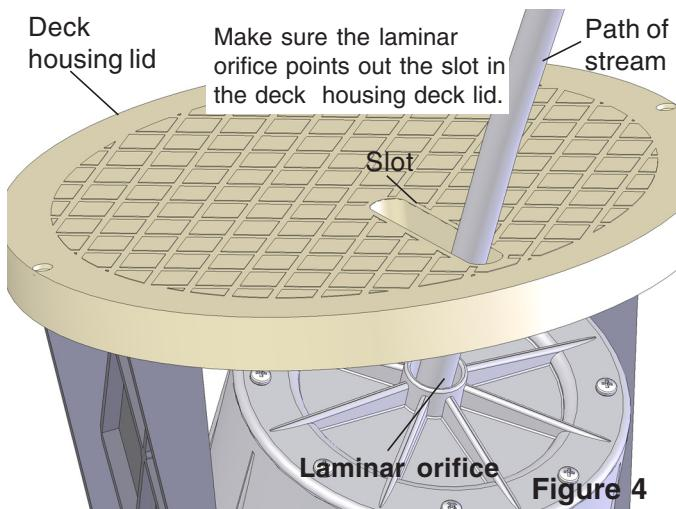

Figure 4
1. Carefully spread the brackets and slide the Laminar unit into the holes in the brackets (Figure 3), making sure the Laminar orifice is pointed out the top slot in the deck housing lid (Figure 4).